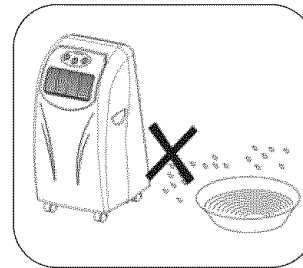

FIG.3
- Do not use in wet environments (FIG. 3).